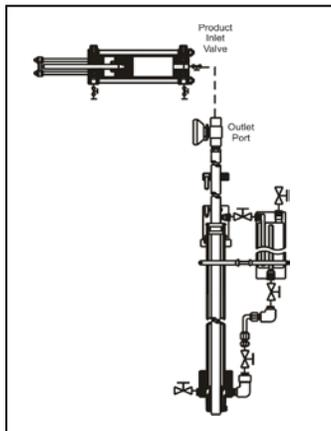

Figure 4
- 2.4.1 After pre-charging the cylinder above pipeline pressure (*see Section 2.2*), connect the product inlet end of the cylinder to the probe outlet port (see Figure 4).